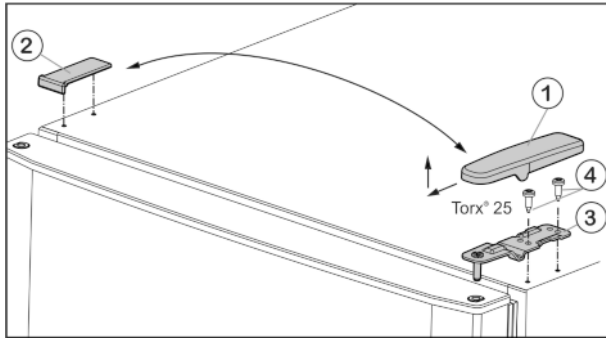

Fig. 5
- ▶ Pull the cover Fig. 5 (1) forwards and upwards.
- ▶ Lift off the cover Fig. 5 (2).
- ▶ Unscrew top bearing block Fig. 5 (3)(2x Torx® 25) Fig. 5 (4) and lift off in upward direction.
- ▶ Install the upper bearing block Fig. 5 (3) on the new hinge side and in the door.
- ▶ Screw in the upper bearing block **tightly (with 4 Nm)**(2x Torx® 25) Fig. 5 (4). Use a cordless screwdriver if necessary.
- ▶ Slide on the cover Fig. 5 (1) on the opposite side from the outside and snap it into place.
- ▶ Slide on the cover Fig. 5 (2) on the opposite side from above until it snaps into place.